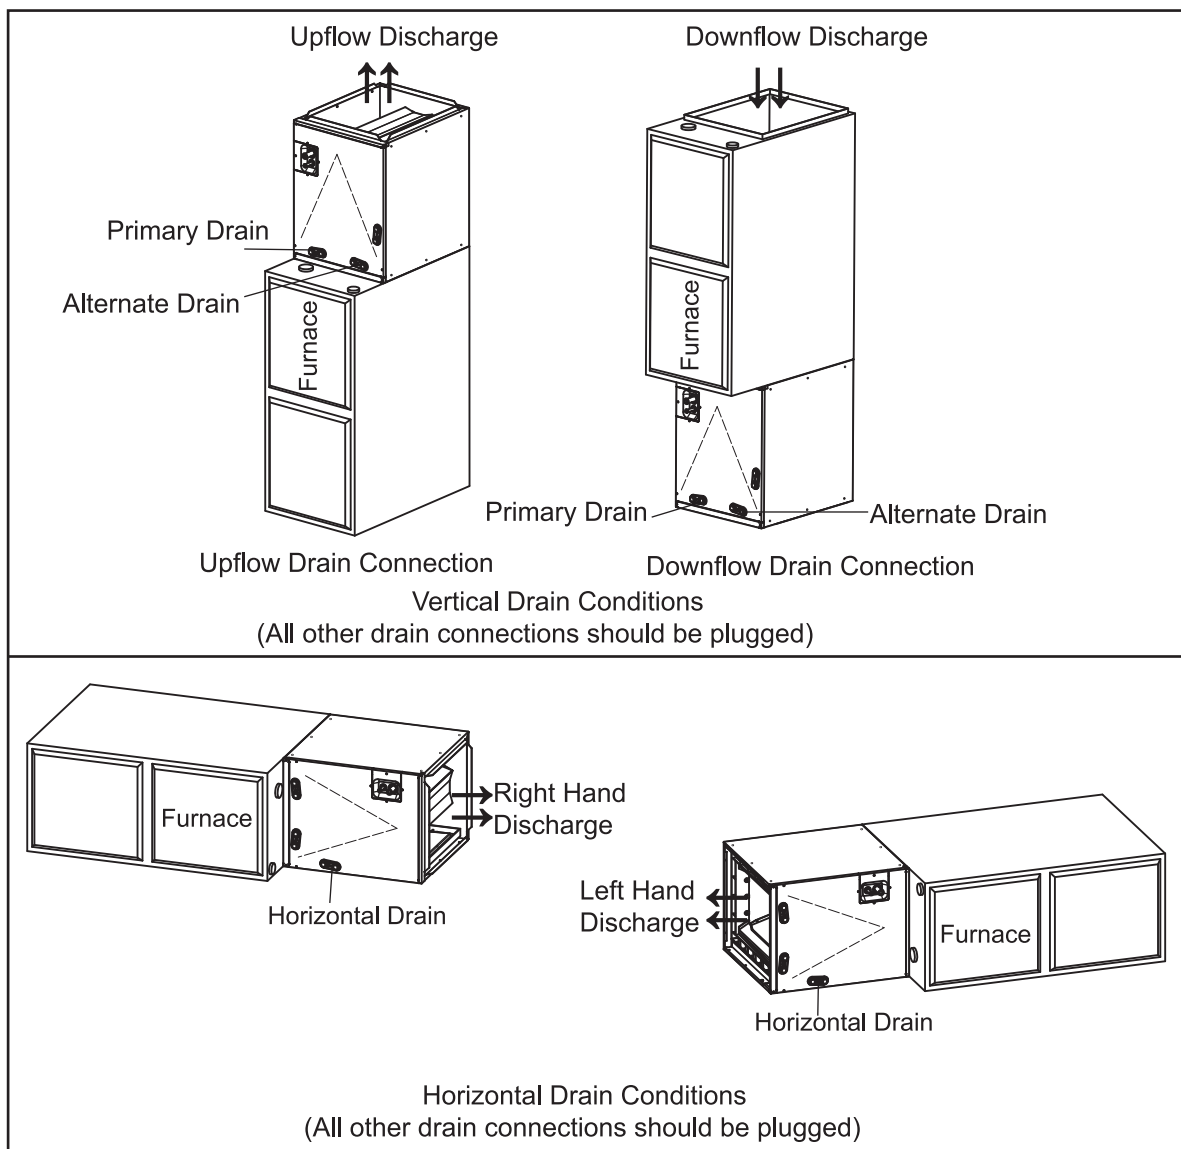

Fig. 3-1 INSTALLATION OF CASSED COIL
1. See Fig. 3-1 for coil installation and drain connection.
See Fig. 3-1. In case that coil and furnace sizes are not matched, use proper size of sheet metal or other material to fill the gap and seal the gap to prevent air leak;